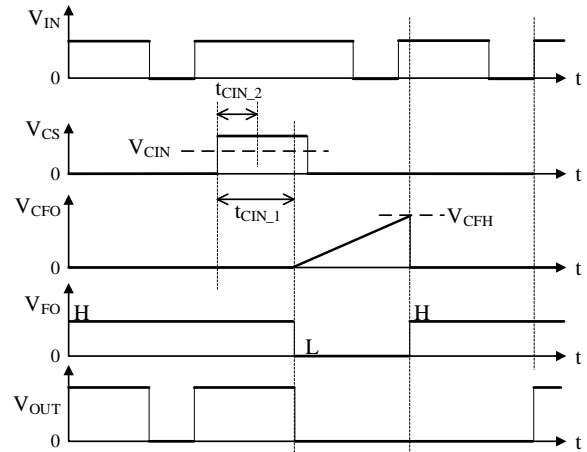

Figure 10-5. Overcurrent Protection Operational Waveforms 1
and turns the FO pin status into high (see Figure 10-5). The approximate value of t_{WFOP} is calculated by Equation (1) (see Section 10.1).